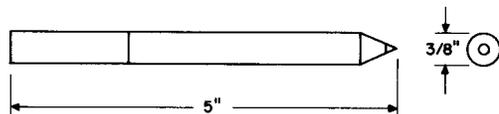

Fig. 1—262 Test Pick Tool
2.01 262: The 262 test pick tool (Fig. 1) is used with a connecting cord to test over terminals connected to 200- or 206-type selector line switch brushes.